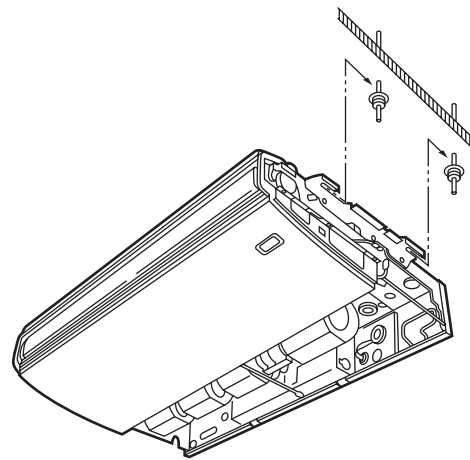

Fig. 3-83
- (b) Lift the indoor unit, and place it on the washers through the notches, to fix it in place. (Fig. 3-83)